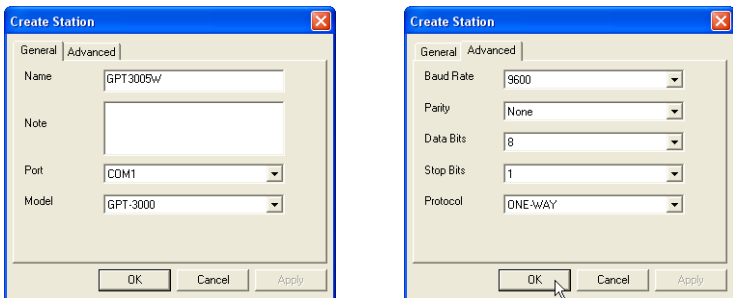

Figure D-6. Set Properties for Connection to GPT3005W TS
5. Set the following information (Figure D-6):
- *Advanced* tab – select communication parameters identical to those set in the Total Station (in this example, the GPT3005W): Baud Rate (9600), Data Bits (CHAR. - 8), Parity (NONE), Stop Bits (1), and Protocol (when you receive data in *GTS-7 Points* format use **ONE-WAY**).